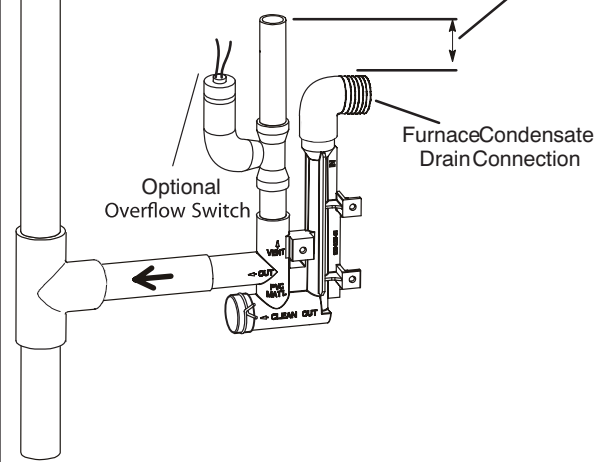
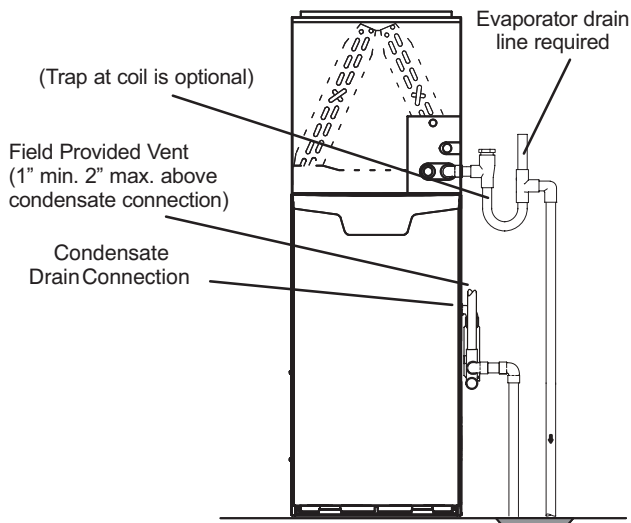
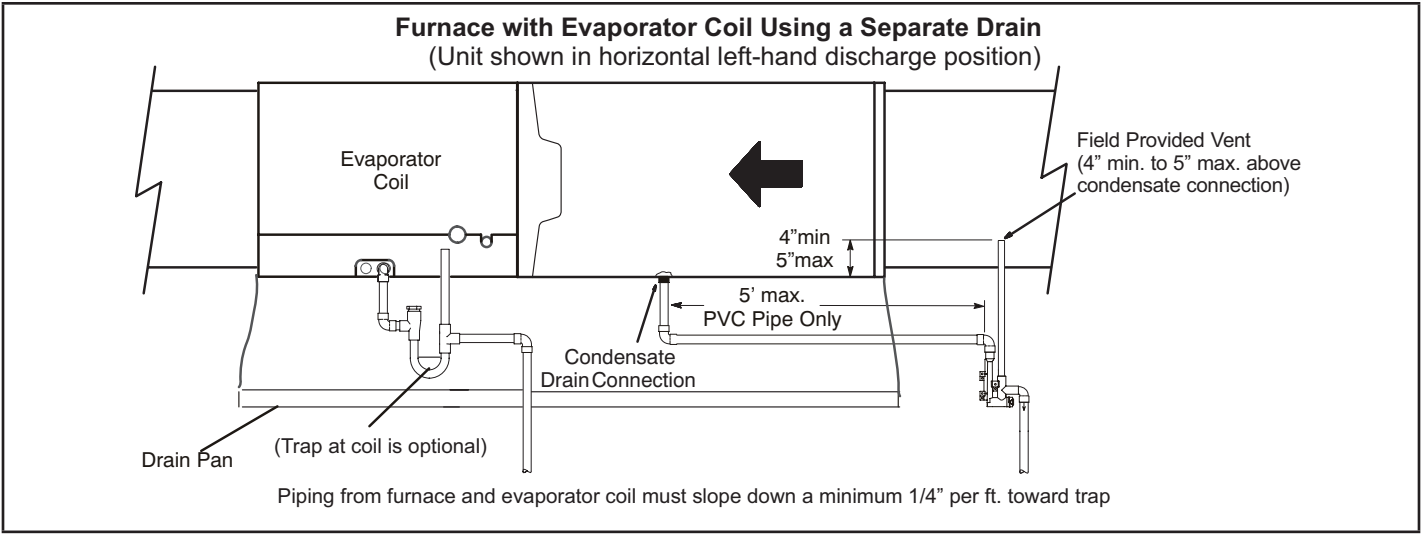
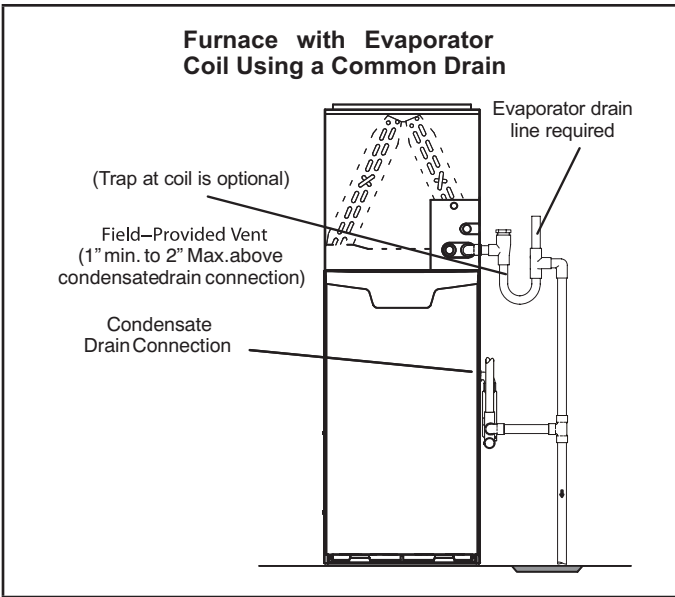

FIGURE 52
FIGURE 51
FIGURE 53
FIGURE 54
- 5 - FIGURE 51 and FIGURE 53 shows the furnace and evaporator oil using a separate drain. If necessary the condensate line from the furnace and evaporator coil can drain together. See FIGURE 52, FIGURE 54 and FIGURE 55. *Upflow furnace (FIGURE 54)* - In upflow furnace applications the field provided vent must be a minimum 1" to a maximum 2" length above the condensate drain outlet connection. Any length above 2" may result in a flooded heat exchanger if the combined primary drain line were to become restricted. *Horizontal furnace (FIGURE 55)* - In horizontal furnace applications the field provided vent must be a minimum 4" to a maximum 5" length above the condensate drain outlet connection. Any length above 5" may result in a flooded heat exchanger if the combined primary drain line were to become restricted.
NOTE - Appropriately sized tubing and barbed fitting may be used for condensate drain. Attach to the drain on the trap using a hose clamp. See FIGURE 54.